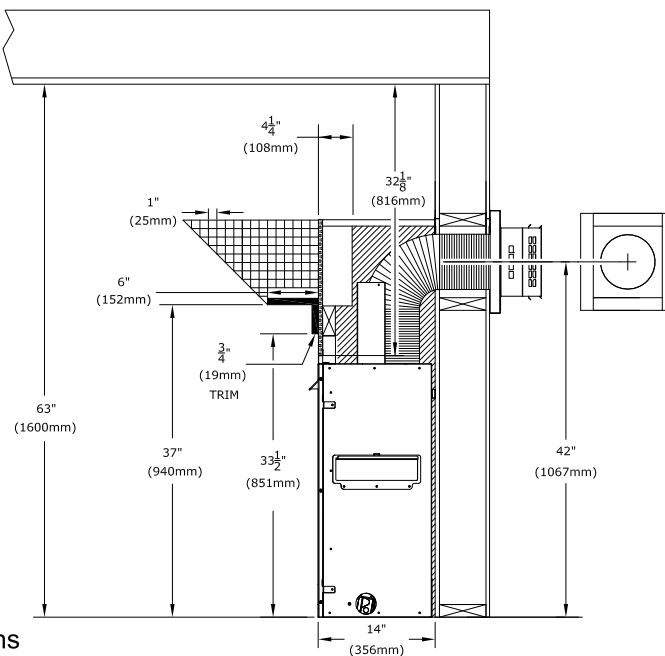

Figure 4.1 - Mantel Projections
- **Combustible Mantel Projections:** As referenced in FIGURE 4.1, the 3/4" (19mm) trim can start at 33-1/2" (851mm) above the fireplace enclosure floor with a 6" (152mm) mantel starting at 37" (940mm) above the fireplace enclosure floor. Mantel projections can increase 1" (25mm) of depth for every 1" (25mm) of height starting at 6" (152mm) mantel.